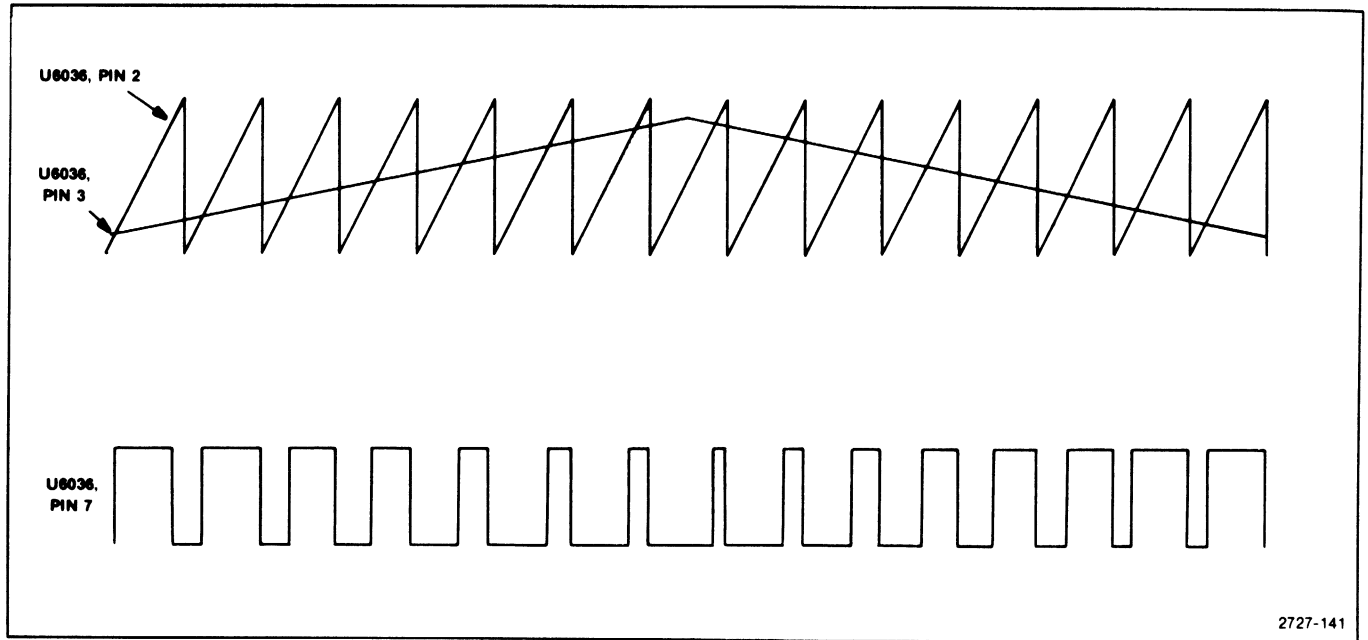

Figure 7-30. Primary regulator input and output waveforms.
**Primary Regulator.** The primary regulator circuit consists of comparator U6036 and U6046, photocoupler U6043, and related components. The circuit varies the duty cycle of the driving signal for the inverter. The +17 V is divided by R6038 and R6037 to approximately +4.8V and applied to the inverting input of U6036. The +5 V reference is applied through R6022 to the non-inverting input of U6036, where it is combined with the ramp signal from the ramp generator stage. The non-inverting input receives a sawtooth signal of approximately 500 mV peak-to-peak superimposed on a +5 V dc level. This is compared with the +4.8 V on the other input, so the comparator switches with each sawtooth cycle. Note in Figure 7-30 that as the level at pin 3 (which corresponds to the +17 V supply variations)